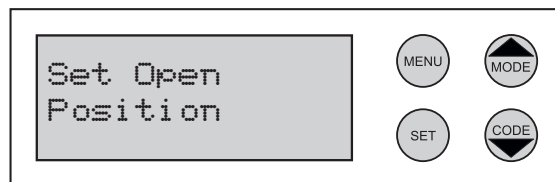

Fig. 27
- 1 With the door open approximately half way, make sure that the drive motor is engaged and the display shows **Set Open Position** (Fig. 27).